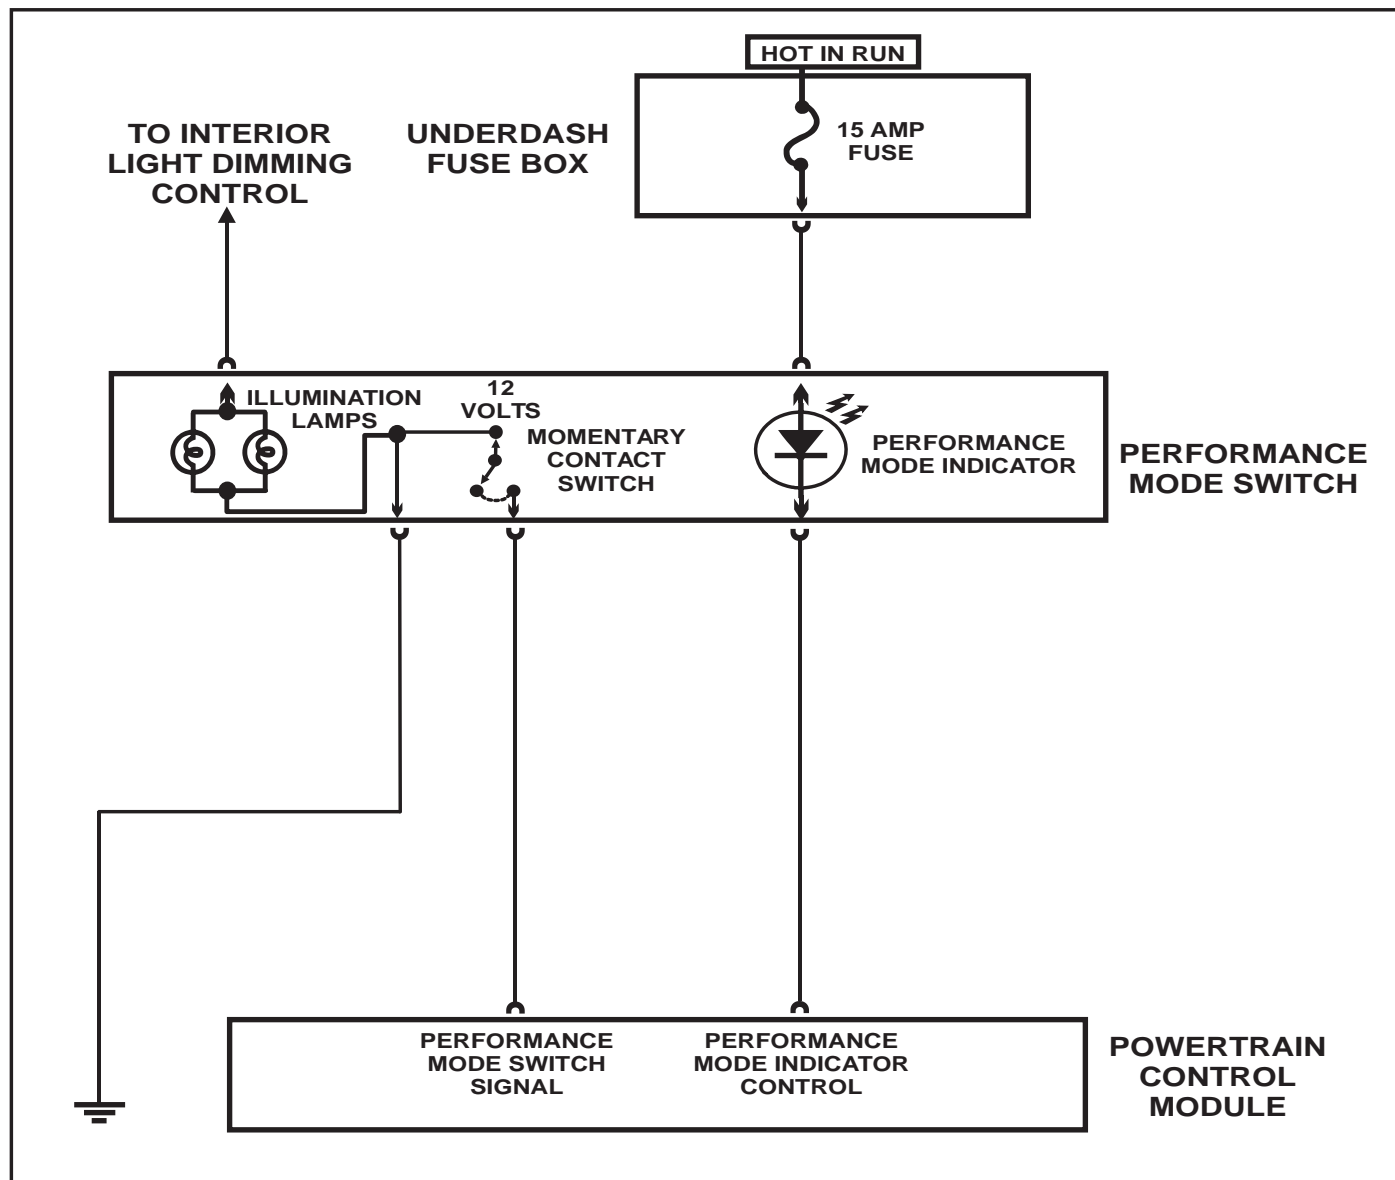

Figure 154
- Check the ground circuit with a DVOM for 0.3 volts or less, if the ground circuit is carrying more than 0.3 volts, the ground wire can be cut and reattached to a known good ground, (Refer to Figure 154).
- The circuit that supplies battery voltage to the switch may be open or shorted to ground, (Refer to Figure 154).
- The Performance Mode Switch is a Normally Open momentary contact switch. When the switch is pressed and released once, (like a doorbell), the 12 volts supply on the signal wire circuit is momentarily pulled to ground. When this pulse is sensed by the PCM, the PCM will respond by illuminating the performance LED Lamp and will also switch to performance mode. When the switch is pressed and released again, the PCM will now extinguish the LED Lamp and will also return to normal shift pattern operation, (Refer to Figure 154). When the ignition is turned off, on the next startup mode operation will be in the normal mode.
- This signal can be imitated with the use of a jumper lead connected to the mode switch ground circuit and then by momentarily touching the jumper lead to the mode switch signal wire, (Refer to Figure 154). If the PCM responds and the scan tool displays a change of state, then replace the switch.
- Disconnect the switch and check the mode switch signal wire for 12 volts from the PCM, if 12 volts is not present, replace the PCM. If it is present, repair the mode switch signal wire, (Refer to Figure 154).